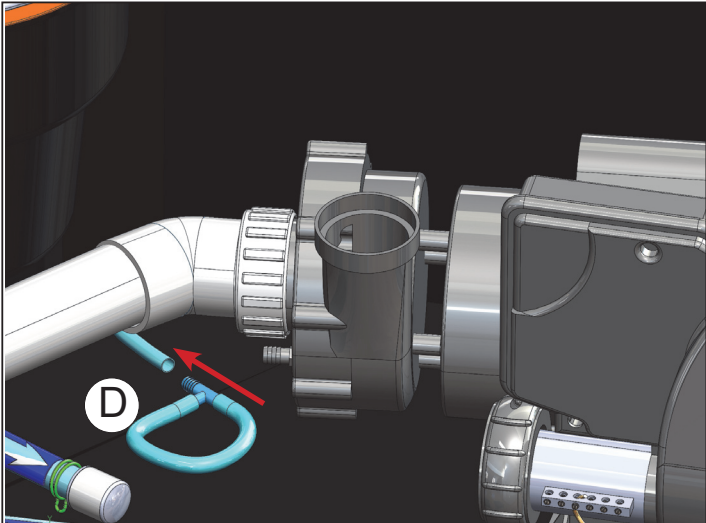

Figure 2.4
6. Locate Extension Tube (Plug) (D) that comes with kit (Figure 2.4).
7. Connect Extension Tube (Plug) (D) to 3/8" vinyl tube that was previously disconnected from the front of the jet pump (Figure 2.4).